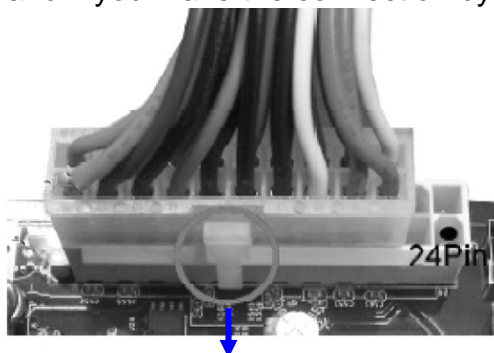

Figure1: 20-pin power plug
** If you are using a 20-pin power plug, please refer to Figure1 for power supply connection. Power plug form power supply and power connectors from motherboard both adopt key design to avoid mistake installation. You can insert the power plug into the connector with ease only in the right direction. If the direction is wrong it is hard to fit in and if you make the connection by force it is possible.